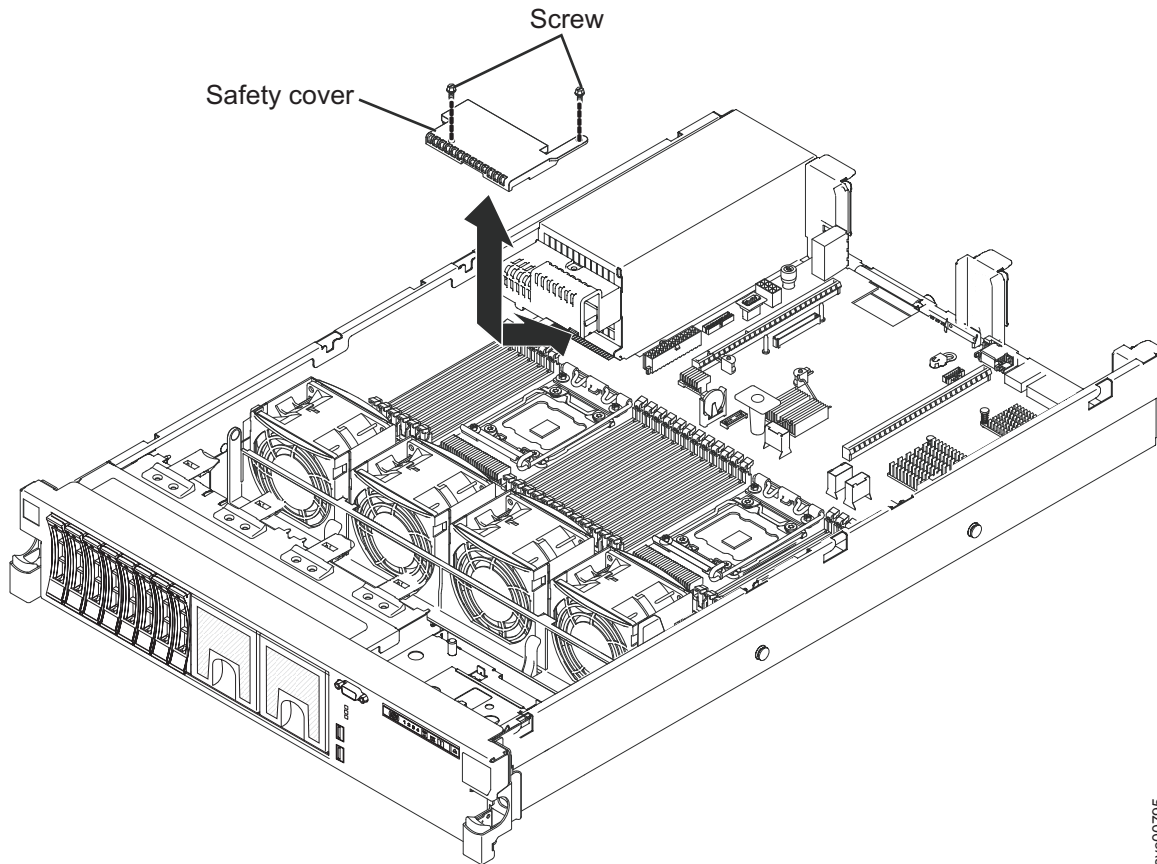

Figure 70. Removing the SAN Volume Controller 2145-DH8 240 VA safety cover
5. Slide the cover forward to disengage it from the system board, and then lift it out of the server, as shown in Figure 70.